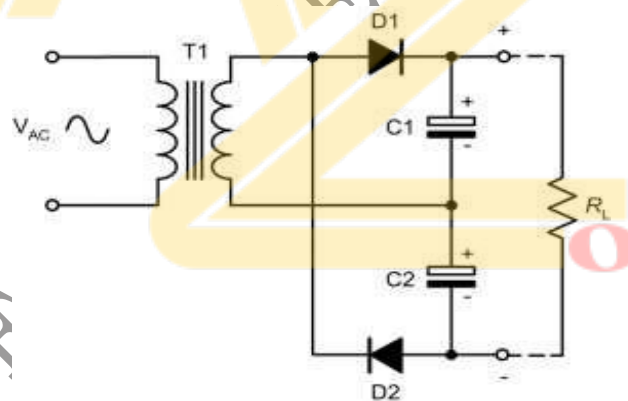

Figure 1.17 A voltage doubler
- Simple shunt zener diode regulators of the type shown in Fig. 1.17 are capable of producing values of regulation of 5% to 10%.
- By adding a second diode and capacitor, the output of the simple half-wave rectifier can be increased. A voltage doubler using this technique is shown in Fig. 1.17.